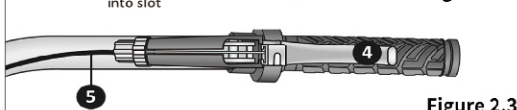

Figure 2.3
- ④ Release the brake lever. Figure 2.3
- ⑤ Lightly pull on the cable, and rotate the cable nut and cable barrel so they are no longer aligned